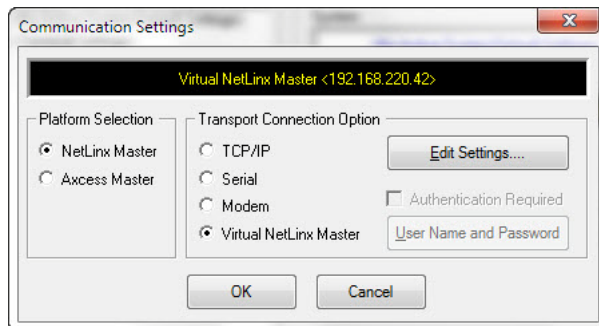

FIG. 28 Communications Settings dialog box
2. Click the **Communications Settings...** button to open the *Communications Settings* dialog (FIG. 28).